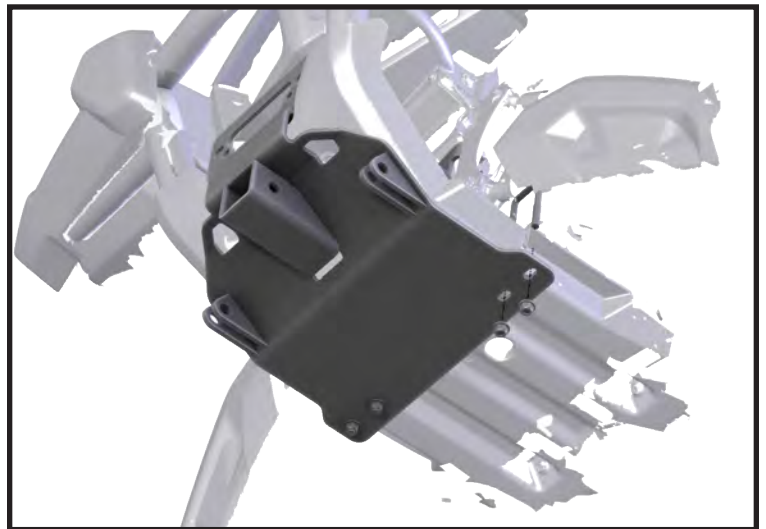

Figure 5: U-bolt Install
“NOTE” The front 2 hex bolts from your winch hardware kit, go through the OEM bumper holes, winch mount and into winch shown in “Figure 5”.
*“Figure 5”
Trace the desired holes onto OEM bumper flange shown in “Figure 5”. Carefully drill holes using a 3/8” drill bit into the OEM bumper flange for mounting winch. Holes for drilling are circled in “Figure 10”.
8. Set plow mount (1) in place and loosely secure rear of plow mount (1) to mount brackets (5 & 6) using bolts (7.5) in the location marked in **Figure 5**.
9. Place spacer (3) between plow mount (1) and skid plate holes (C) and secure front of plow mount (1) using bolts (7.4) and nuts (7.1) as shown in **Figure 5 and the exploded diagram**. **NOTE:** Place the closed hole end of the spacer behind the plow mount (1) first. After loosely securing plow mount with bolt (7.4) and nut (7.1) as shown in the exploded diagram, swing open end of spacer down between plow mount (1) and skid plate, adding the other hardware.
11. **NOTE:** Plow mount (1) can be removed in the off season so it does not reduce the ground clearance of the machine. If you do not wish to re-insert hardware back into nut plate (2) and mount bracket (5 & 6), keep hardware with plow mount to be reused.
4. Slide front of Plow Mount (1) between the front bumper and frame of the machine as shown in **Figure 5**.
6. Secure rear of Plow Mount (1) using bolts (3.2) as shown in **Figure 5**.